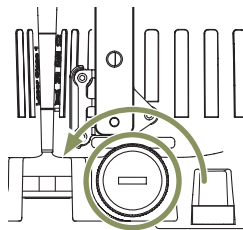

Fig. 4
1. Open the battery case by turning it counterclockwise, see Fig. 4.